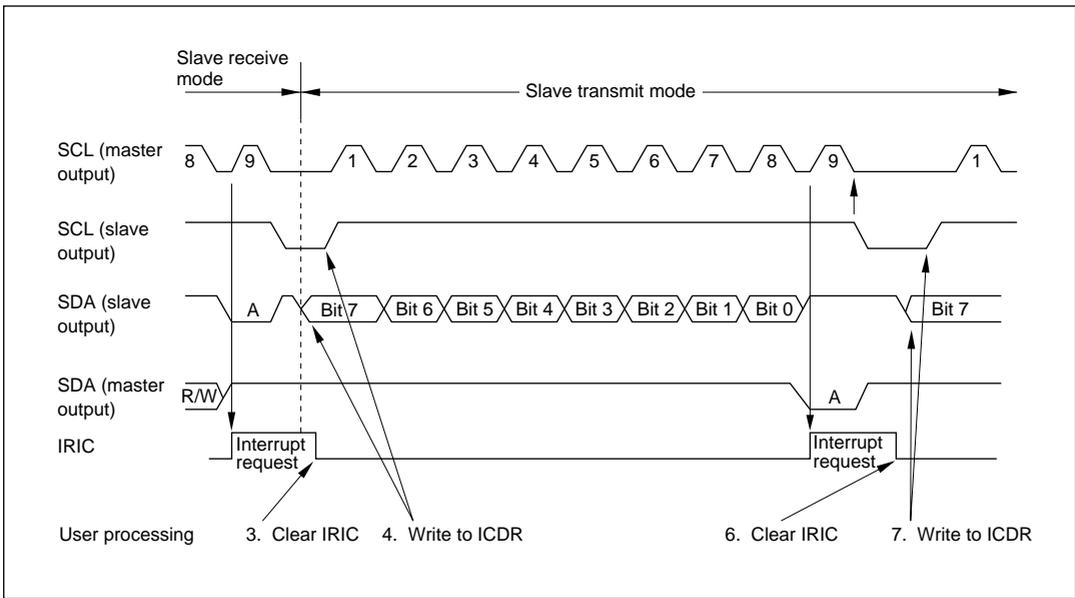

Figure 13-8 Operation Timing in Slave Transmit Mode
4. Write data in ICDR. The slave device outputs the written data serially in step with the clock output by the master device, with the timing shown in figure 13-8.